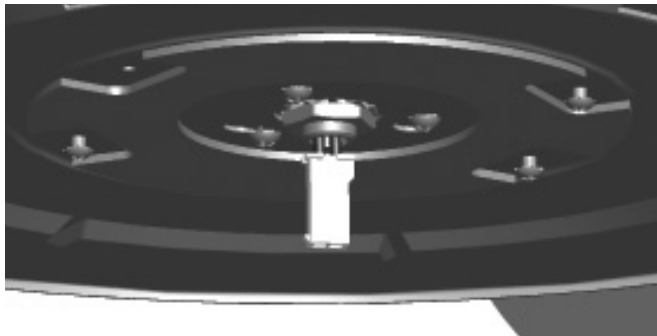

FIGURE 4.
Step 6. To attach the Light Kit, partially install three Light Kit Screws into the Glass Fitter Plate. Figure 4.